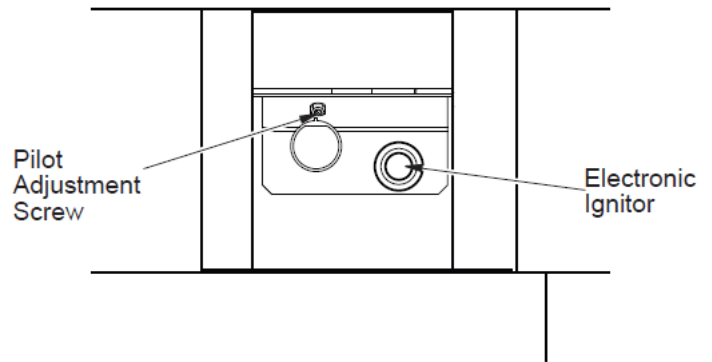

Figure 21 - Location of the Pilot Adjustment Screw
- Access pilot adjustment screw through slot in valve cover. Turn adjustment screw clockwise to decrease or counterclockwise to increase the flame to proper size (see Figure 21). Do not remove adjustment screw.